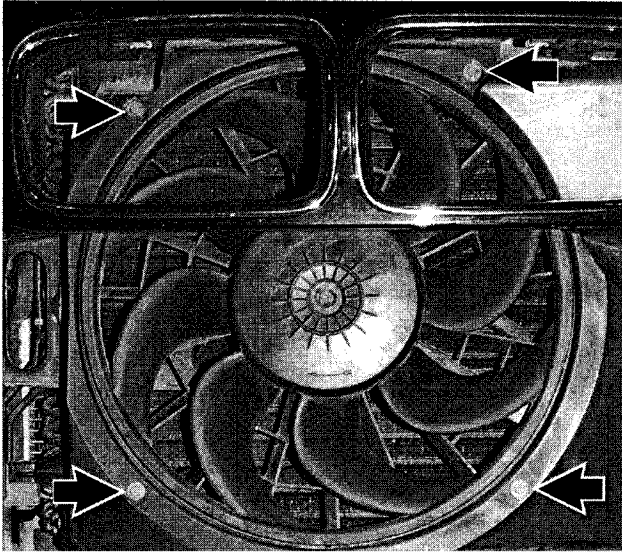

Fig. 13. Version 2 auxiliary fan mounting screws (arrows). Front bumper has been removed.
2. Remove fan mounting screws. See Fig. 13.